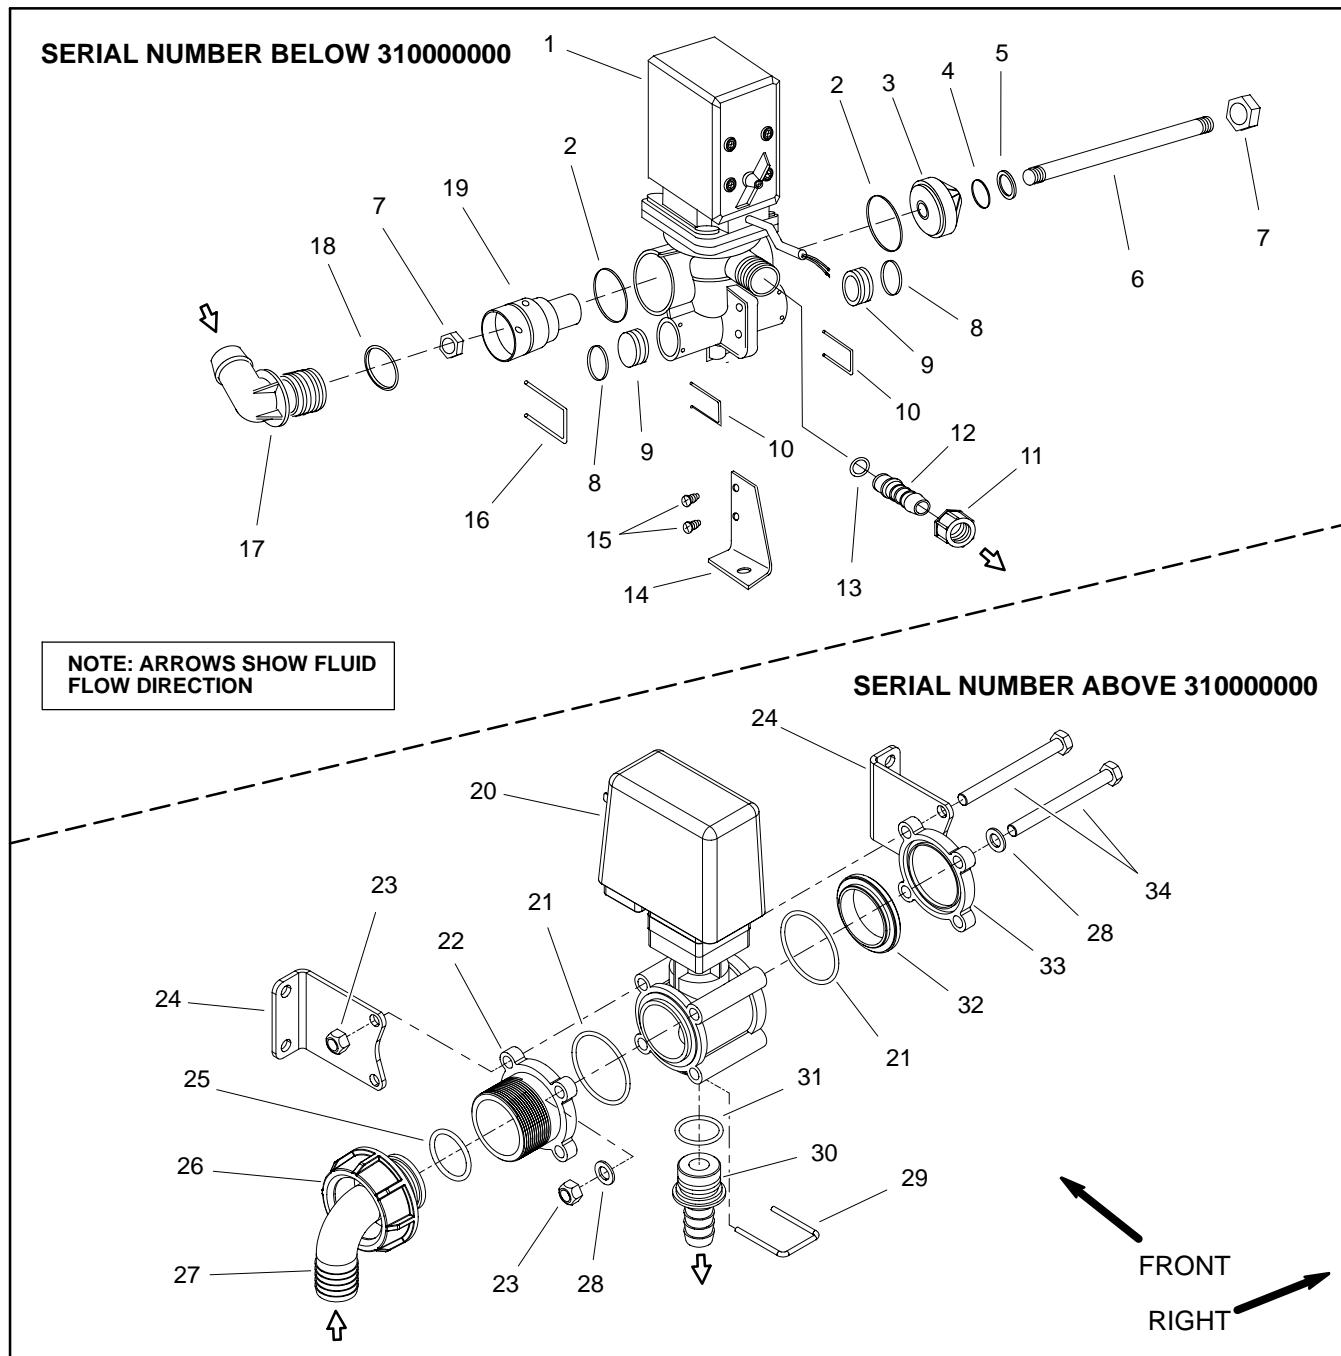

Figure 27
The agitation switch on the operator spray console is used to energize the agitation valve motor and open the valve. The open agitation valve allows system flow to reach the three (3) agitation nozzles located in the spray tank. Two (2) styles of agitation valve motors have been used on Multi Pro 5700-D machines. Both of these motor styles are shown in Figure 27.
#### Disassembly (Fig. 27)
2. Disassemble agitation valve motor assembly as needed using Figure 27 as a guide. Discard all removed O-rings and gaskets.
#### Assembly (Fig. 27)
1. Assemble agitation valve motor assembly using Figure 27 as a guide. Replace all removed O-rings.